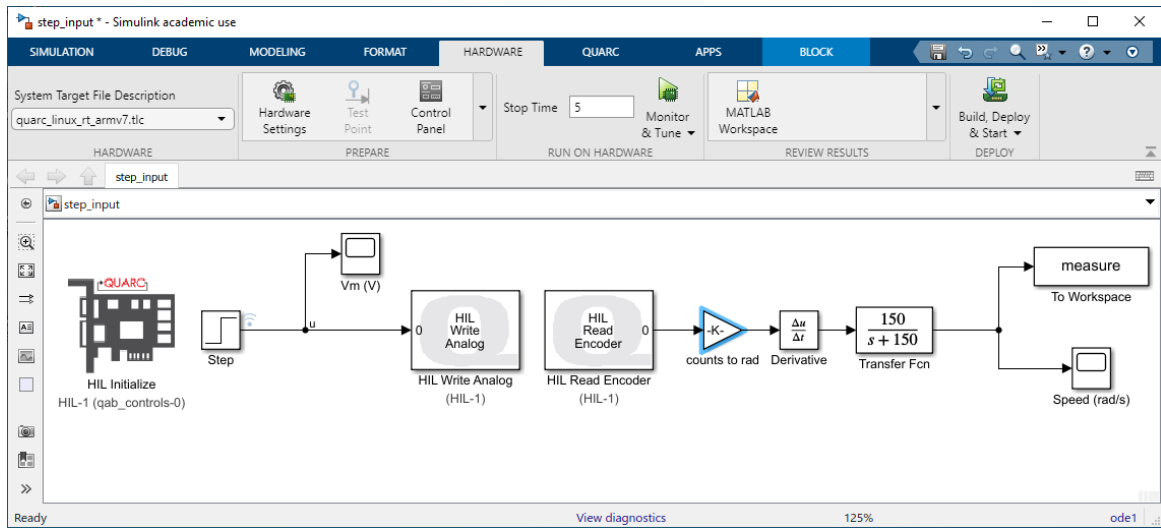
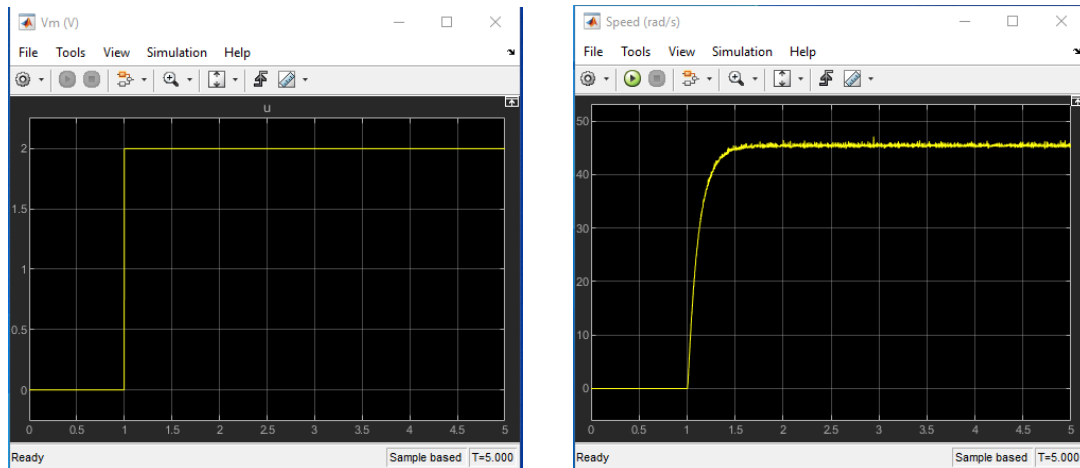

Figure 3: Simulink/QUARC interface between Matlab and the Quanser Controls Board in Figure 1.
Figure 4: Input to (left) and processed measured output of (right) the Quanser Controls Board corresponding to simulation in Figure 3.
The software package QUARC builds an interface between Matlab/Simulink and the hardware. A simple example of the graphical user interface of QUARC embedded in Simulink is shown in Figure 3. Here, from left to right,
- the 'Scope' block labeled V_m (V) visualizes the input signal (see Figure 4, left),
- the 'Scope' block Speed (rad/s) visualizes the processed sensor data (see Figure 4, right).
5. Download the Simulink file shown in Figure 3 from Wattle, save it and open it through Matlab.
6. Run the file by clicking on 'Monitor & Tune' (see Figure 3).
8. If you open the scopes, you should see something similar to Figure 4.
3. We want to identify τ and K based on the information in Figure 4. To this end, run the file in Figure 3 and have a look at the graphs in the Scopes.
4. Follow the instructions in the lab to extend the Simulink file shown in Figure 3. In particular, add the differential equation